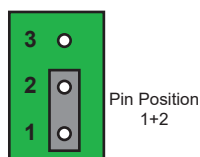

Figure 5 J3 — Default Position
- **Pin 1** (bottom) + **Pin 2** (center) — In this position, the reference is terminated with a 75ohm resistor. This configuration is to be used for point-to-point cabling, or on the last card of a daisy chain topology. This is the default position. Refer to **Figure 5** for pin positions.